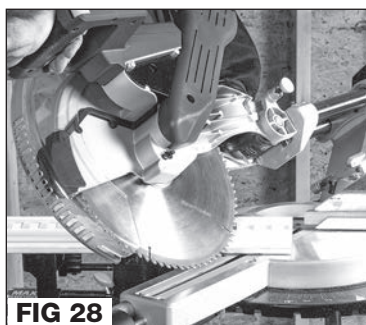

**FIG 27**
## CUTTING BASE MOULDING (FIG 27)
**Vertical Cutting: (FIG 27)**